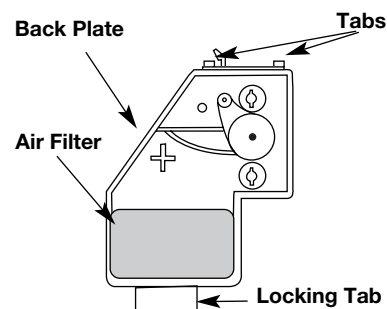

Fig. 31
6. Replace the filter (Fig. 31).
7. Reinstall the air filter cover. Position the slots on the top of the air filter cover onto the tabs at the top of the back plate (Fig. 31).